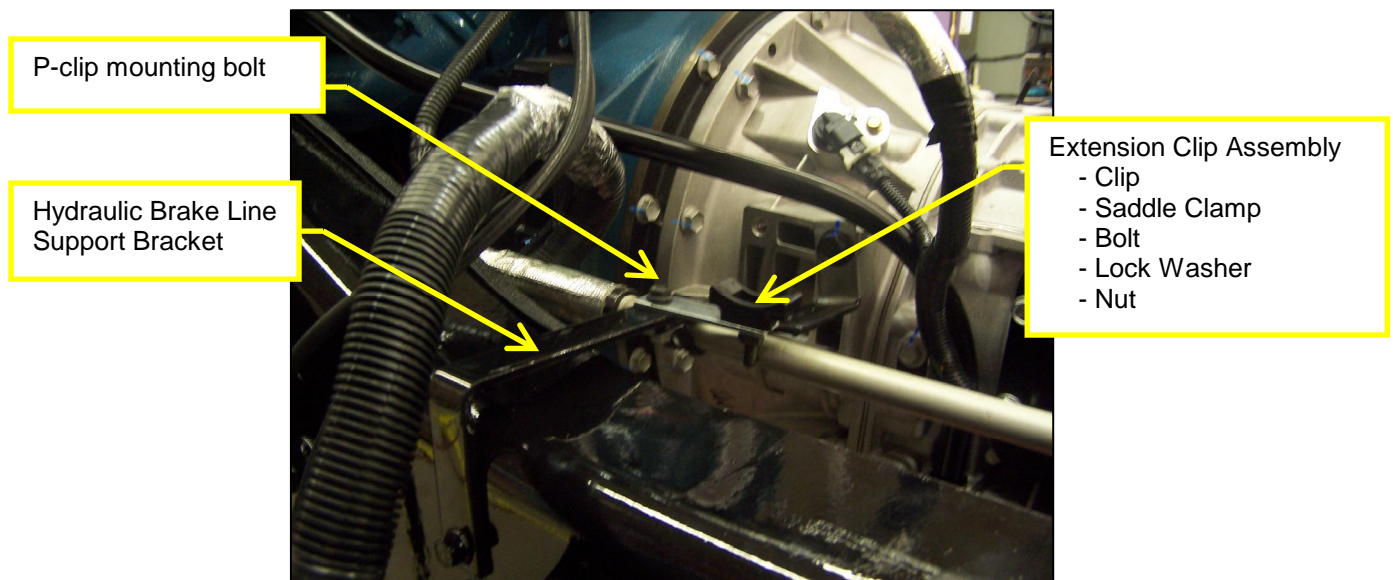

Figure 4.
9. Install extension clip assembly onto the hydraulic brake line support bracket using existing p-clip mounting bolt as shown in Figure 4. The parts needed are: 432013C1 extension clip, 2041341C1 saddle clamp, 25483R1 bolt, 120380 lock washer, and 25519R1 nut.